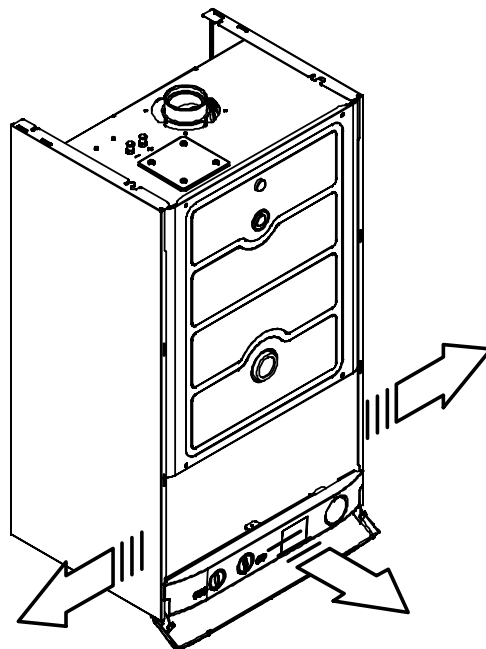

Fig. 6.12
- 4 Remove the side panels or move the lower part of the side panels as indicated in Fig. 6.12 and pull the control panel.